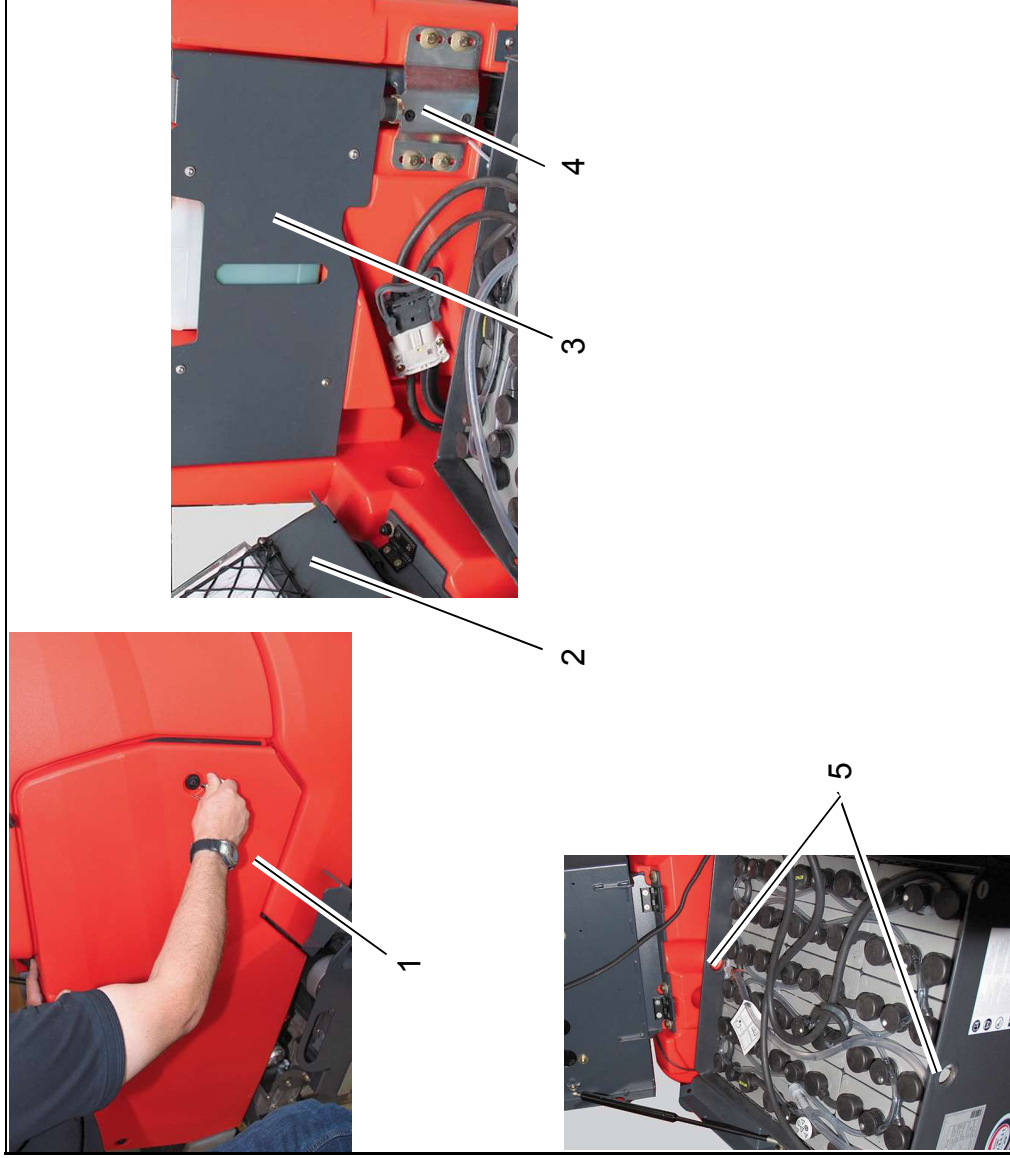

Fig. 2
1. Remove side panelling with provided wrench (Fig. 2/1).
2. Swivel seat console all the way upwards (Fig. 2/2).
3. Remove cover (Fig. 2/3).
4. Unscrew seat bearing (Fig. 2/4).
5. Remove battery at lifting points (Fig. 2/5) using suitable lifting gear.